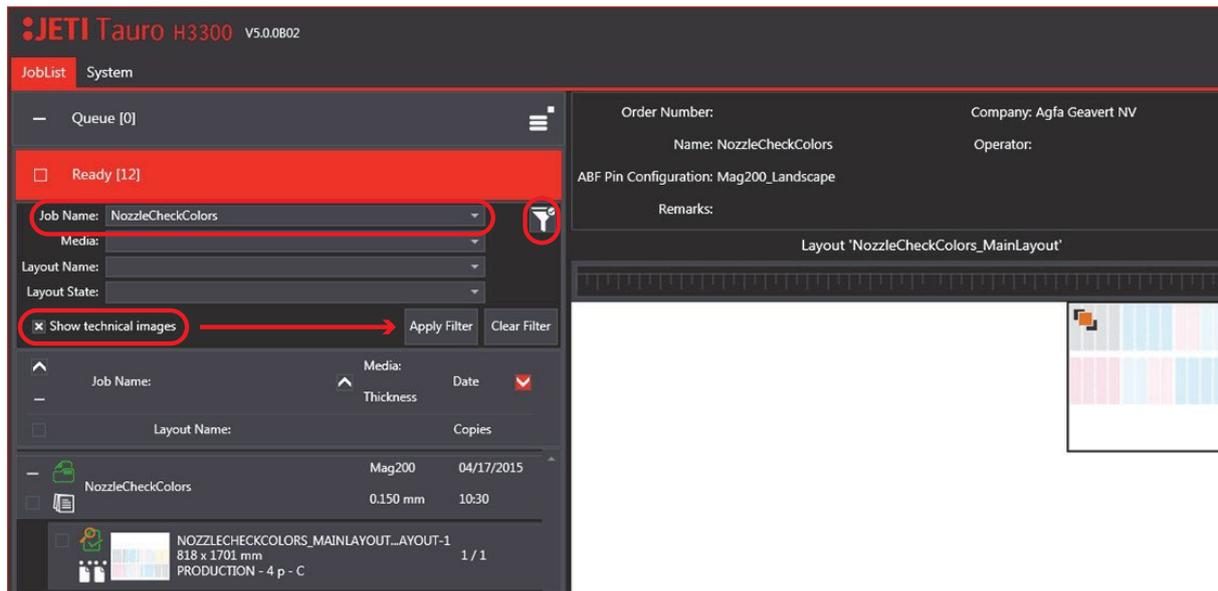

Fig.4-29: Nozzle Check Window
- Step 02: Check color print heads nozzles (see Fig.4-29). under joblist, open filter and enable Show technical images